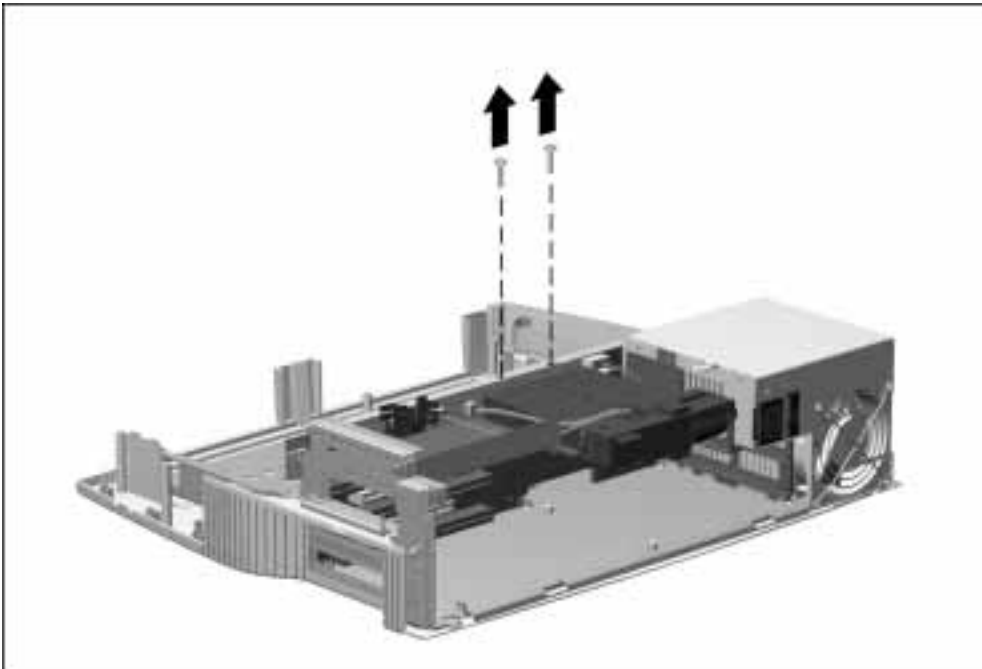

Figure 5-50. Removing the Mechanism Assembly Screws
7. Remove the two screws securing the mechanism assembly to the backplane assembly (Figure 5-50).